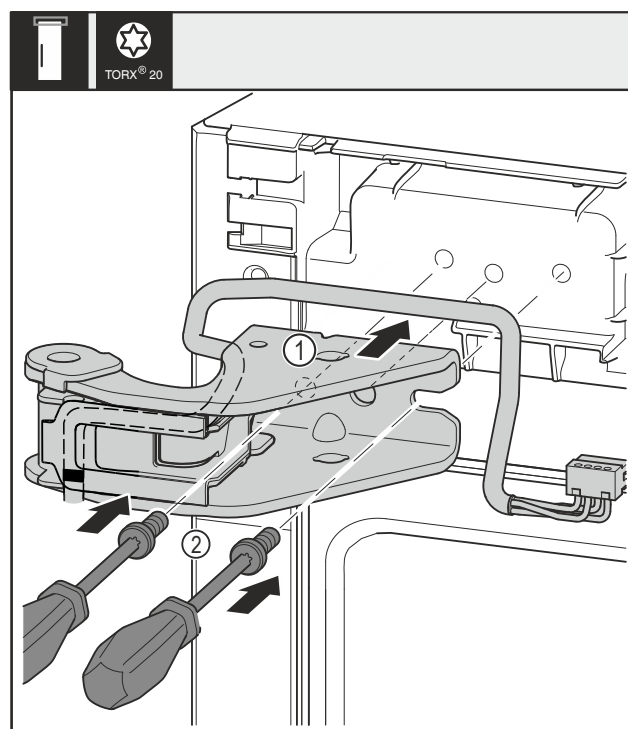

Fig. 30
- Attach the top swap bearing block Fig. 30 (1).
- Insert and tighten the screws Fig. 30 (2) with a screwdriver.